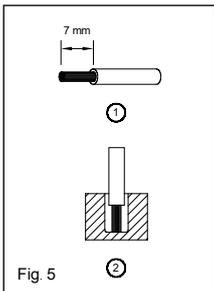

Fig. 5
You can use flexible (stranded wire) or solid cables with cross section 0.52-3.3 mm2 (AWG 20-12) and torque of 0.46 Nm (4.05 lb in). To secure reliable and shock proof connections, the stripping length should be 7 mm (see Fig. 5 (1)). Please ensure that wires are fully inserted into the connecting terminals as shown in Fig. 5 (2).